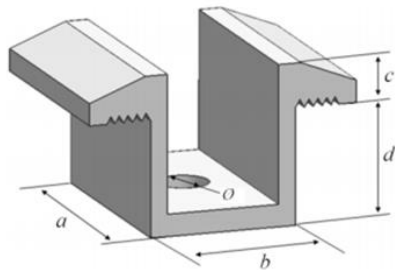
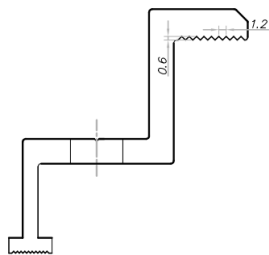
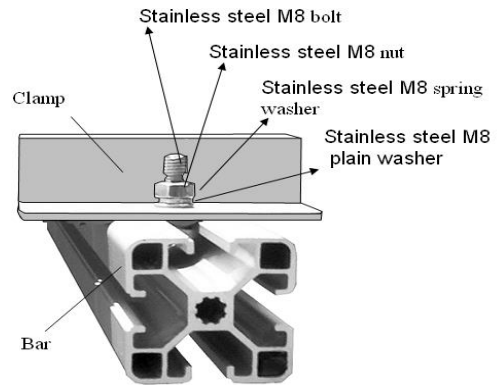

Fig. 14 Schematic diagram of the mid clamp
Fig. 15 Schematic cross section of the fringe clamp
Fig. 16 Schematic diagram of the fringe clamp
- ③ The top surface of the rail contacted with module frame should be equipped with grooves compatible with an M8 bolt.
- ④ If the grooves are not provided, holes of a suitable diameter may need to be drilled to allow bolts attaching to the rail at the same locations as mentioned above.
- ⑤ Ensure that the mounting sequence of each clamp is in the order of flat washer, spring washer and nut.
- ⑥ There are two types of clamps, the mid clamp shown in Fig. 14 and the fringe clamp shown in Fig. 15 and Fig. 16. The mid clamp has dimensions of a ≥ 40 mm, b ≥ 26 mm, c ≥ 5 mm, d ≥ 28 mm, $\text{Ø} = 9$ mm. For module of 182/210mm-wafer, the size of mid and fringe clamp must meet a ≥ 60 mm. The tightening torque is suggested to be 17~23Nm for Class 8.8 screw and bolts.
- ⑦ To prevent modules from coming off the fixed device after installation, it is suggested to choose fringe and mid clamps and make contact with the A side of the frame with groove patterns. Suggest to have 9 patterns with a space between 2 adjacent patterns of 1.2mm and a depth of 0.6mm, as shown in figure 15.